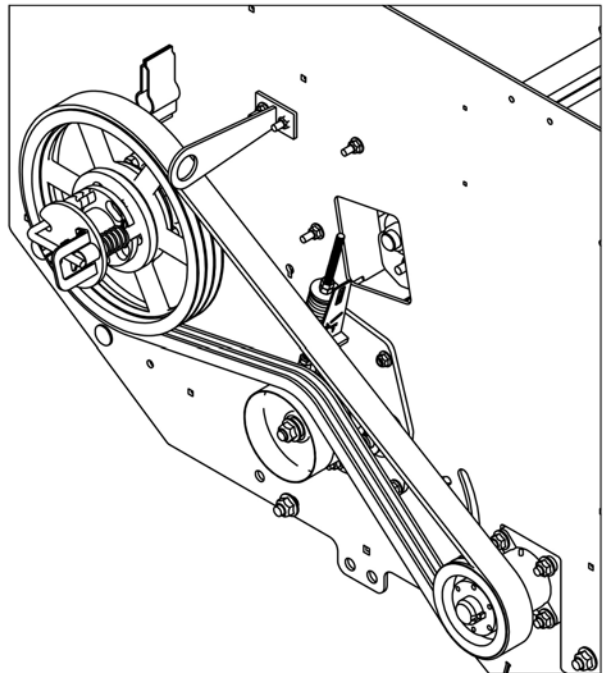

Figure 27: Install the Drive Belt
23. Install the drive belt around the large sheave, over the tensioner and around the chopper sheave, see *Figure 27*.